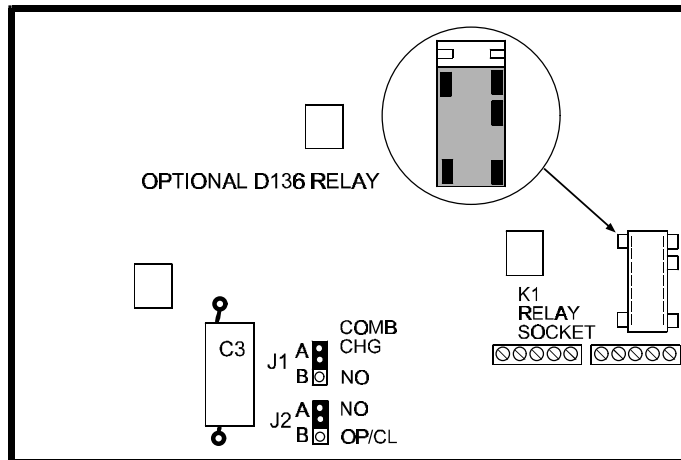

Figure 2: D268 Module
You need to install a jumper plug on J1 in the "A" (COMB CHG) position (see Figure 2) to enable the passcode change feature. To prevent further passcode changes, place the jumper plug in the "B" (NO) position.
2. Discharge the large capacitor (C3) indicated in Figure 2, by momentarily shorting its leads together with a jumper wire.
When using a D8112, supervised sub-control zone codes must be programmed with a 3 in the first digit position and a 2 in the second digit position. The 3 2 __ code is a *Special Zone Code* used by the D8112 to identify a supervised sub-control zone. Install jumper plug J2 in the “B” OP/CL position on the D268 Module (see Figure 2) to enable opening and closing reports from the zone controlled by the D268.
An optional alarm device, such as a bell, can be installed to annunciate alarms associated with the D268/D269. Figure 4 shows the wiring of the optional device from the D268 Module to the panel. A Radionics model D136 Relay must be installed in the K1 socket of the D268 Module (see Figure 2) to operate this optional device. The socket is designed so the relay can be inserted in either the top or bottom positions. Insert the relay with the three legs facing away from C3. If a fault is detected on a D268 loop, the on board form C relay is activated. The relay is latched until you enter the passcode. See the appropriate *Operation and Installation Manual* for further details on the programming and operation of the Alarm Output.
The D268 Module contains two movable jumpers. The location of these jumpers is shown in Figure 2. Jumper J1 is used to enable and disable the passcode change function from a D269 Keypad. With the jumper plug installed in the "A" (COMB CHG) position, you can change the passcode. If the jumper plug is installed in the "B" (NO) position, you cannot change the passcode.